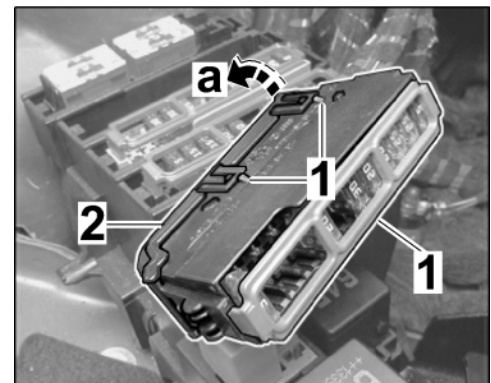

Figure 9
2.4.3 Release cap bottom from fuse strip B and C on both sides and unclip it. ⇒ *Figure 9-a-*